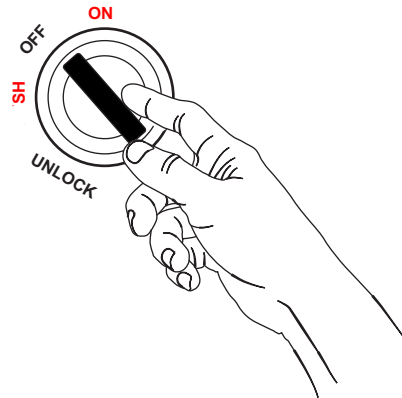

Figure 11. Key Switch OFF Position
6. To lock the battery (Figure 11), place the key switch in the **OFF** position, locking pin is **extended**.